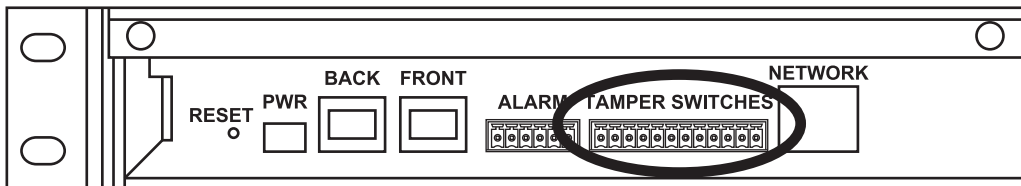

Figure 14. Tamper switches.
• Pins 1 thru 8 of the tamper switches terminal block are used for the security sensors, as shown in Figures 14 and 15.